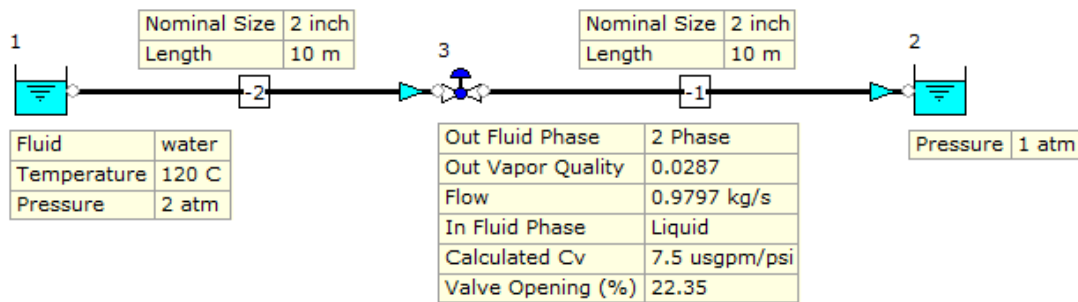

Figure 5.3.1: Changing Quality Water System.
Let's build the model as shown in Figure 5.3.1 using schedule 40 steel pipework.
Step 1: The first step is to lay out the model as per Figure 5.3.1. Place two *Known or Assigned Pressure* nodes (available from the *Boundaries* tab) on the flowsheet to represent the system inlet and outlet. Select *Steel Pipe or Duct* from the *Pipes* tab and develop the model connectivity as shown.
Insert the element into the pipe as shown in Figure 5.3.1.
Now we can consider the pipes. We need to define the lengths as shown in Figure 5.3.1 and described in Table 5.3.1 using the *Input Inspector*.